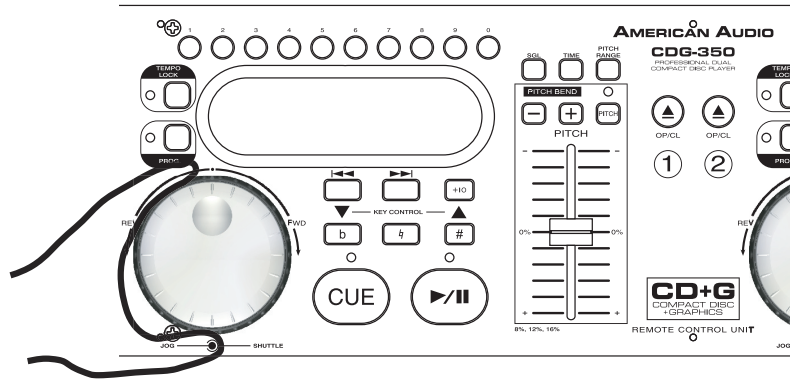

Figure 10
This feature allows you to scroll through a track frame by frame, allowing you to find and set a starting cue or loop point. To use the scroll function you must first be in Pause Mode or Cue Mode. Once you are in Pause or Cue mode, turn the *SHUTTLE WHEEL (17)* to scroll through the track (Figure 10). Turning the wheel in a clockwise direction will advance the frame search and turning the wheel in a counter-clockwise direction rewinds the frame search. When you use the *SHUTTLE WHEEL (17)* the monitor (headphone level) function allows you to here what you are scrolling through. Once you reach your desired starting point you can set a cue (starting) point by pressing the *PLAY/PAUSE BUTTON (14)*. Pressing the *CUE BUTTON (15)* will now return you to the point you just set.
8. CHANGING THE TIME DISPLAY (44, 45, & 46)/TIME BAR (43):